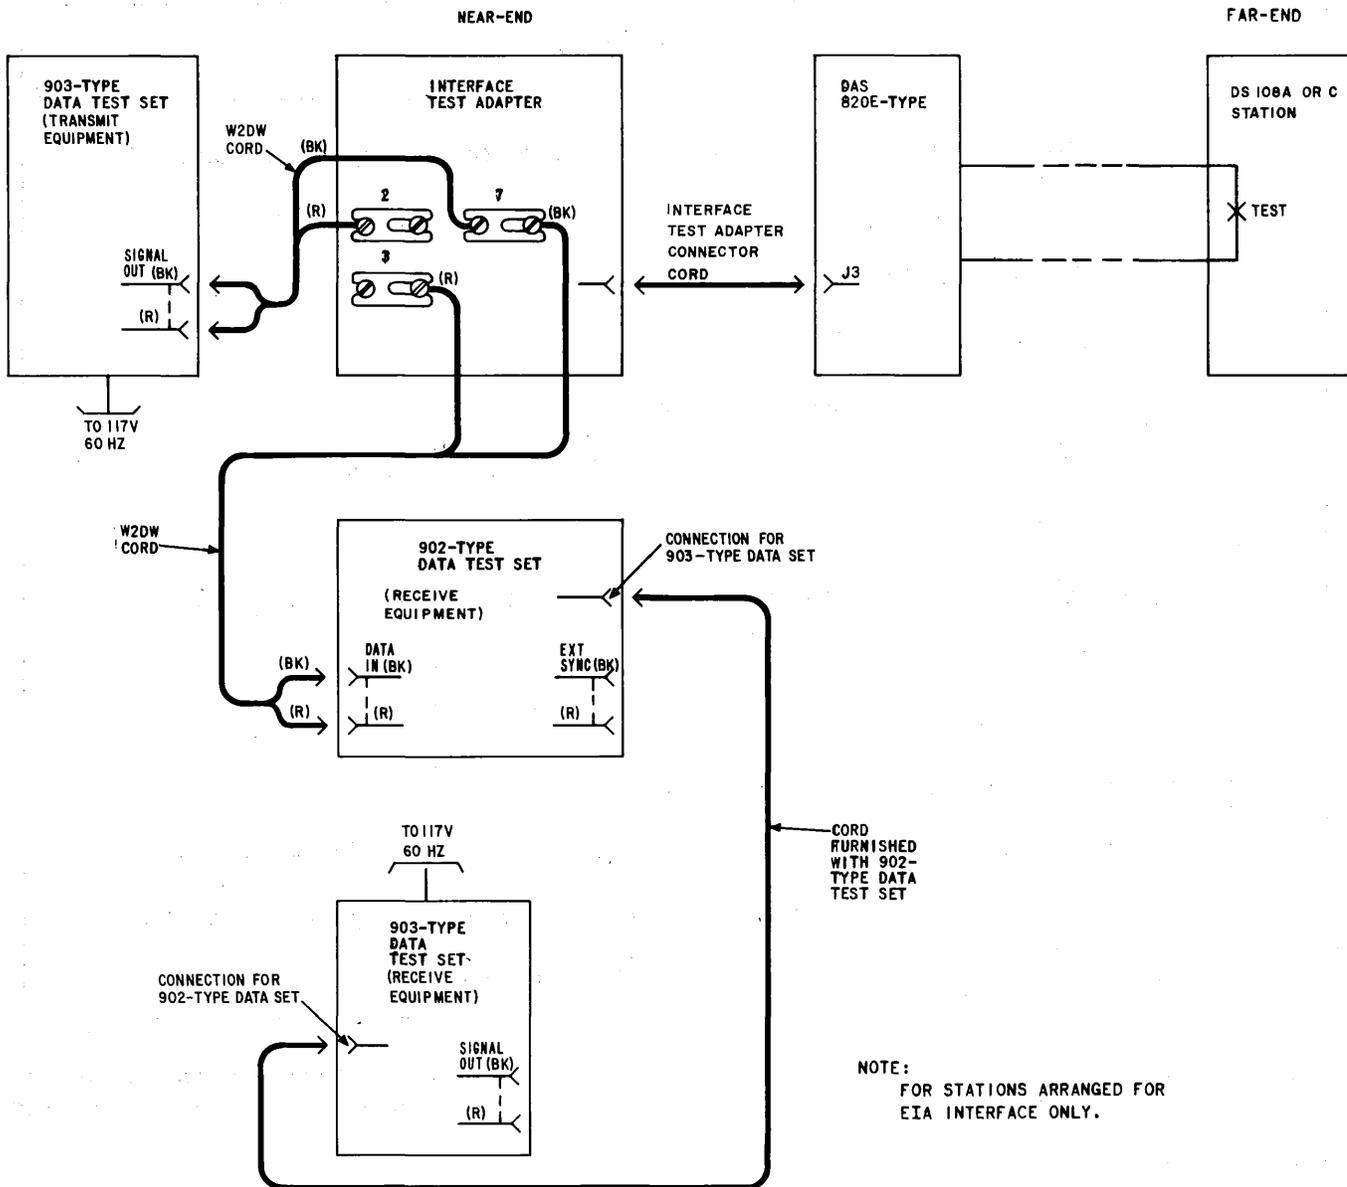

Fig. 3—Distortion Test Arrangement Using 902- and 903-Type Data Test Set
2.11 Figure 3 shows the equipment set up at the terminal for testing both directions of transmission. This test checks the transmitter and receiver of both data sets and the two directions of transmission of the connecting facilities.
2	<p>Make connections as shown in Fig. 3.</p> <p>Transmit Equipment on Transmit Lead</p>